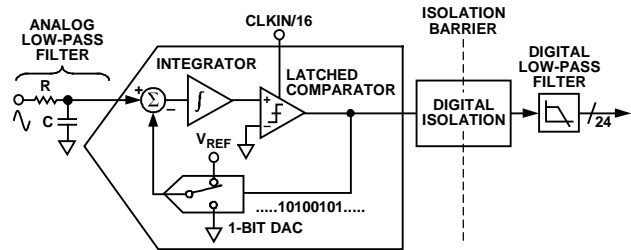
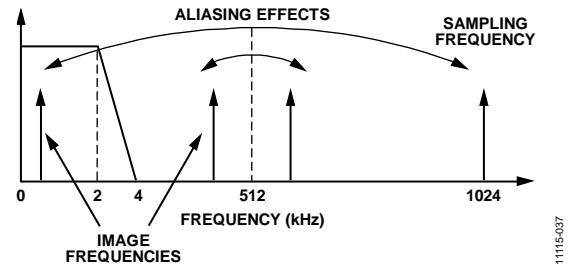

Figure 25. First-Order Σ - Δ ADC
Figure 27. Aliasing Effects
The ADE7912/ADE7913 have three second-order Σ - Δ ADCs. For simplicity, the block diagram in Figure 25 shows a first-order Σ - Δ ADC. The converter is composed of the Σ - Δ modulator and the digital low-pass filter, separated by the digital isolation block.
Figure 25 also shows an analog low-pass filter (RC) on the input to the ADC. This filter is placed outside the ADE7912/ADE7913, and its role is to prevent aliasing. Aliasing is an artifact of all sampled systems, as shown in Figure 27. Aliasing refers to the frequency components in the input signal to the ADC that are higher than half the sampling rate of the ADC and appear in the sampled signal at a frequency below half the sampling rate. Frequency components above half the sampling frequency (also known as the Nyquist frequency, that is, 512 kHz) are imaged or folded back down below 512 kHz. This happens with all ADCs, regardless of the architecture. In Figure 27, only frequencies near the sampling frequency of 1.024 MHz move into the bandwidth of interest for metering, that is, 40 Hz to 3.3 kHz or 40 Hz to 2 kHz. To attenuate the high frequency noise (near 1.024 MHz) and prevent the distortion of the bandwidth of interest, a low-pass filter (LPF) must be introduced. It is recommended that one RC filter with a corner frequency of 5 kHz be used for the attenuation to be sufficiently high at the sampling frequency of 1.024 MHz. The 20 dB per decade attenuation of this filter is usually sufficient to eliminate the effects of aliasing.